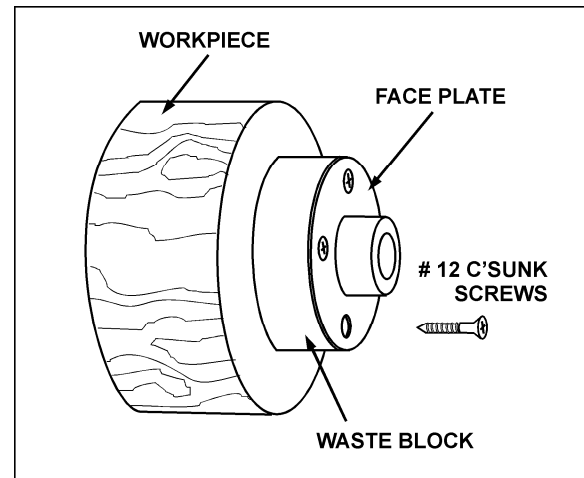

Figure 29
5. Make a block the same diameter as the face plate, Figure 29. Both waste block and workpiece should have flat surfaces for gluing.